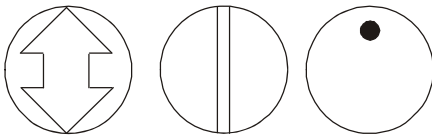

Figure 2: Damper Position Icons
1. Check that the damper blade is visible, or its position is permanently marked on the end of the damper shaft, as illustrated in Figure 2.